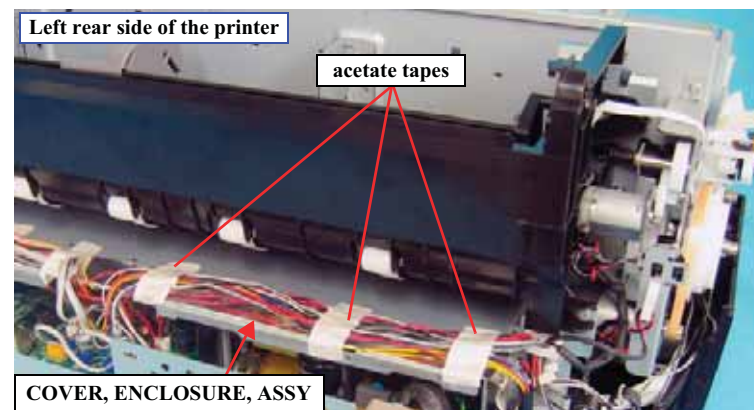

Figure 4-102. Releasing the MOTOR, RELEASE, ASSY. Cables (1)
4. Remove the acetate tapes on the COVER, ENCLOSURE, ASSY. to release the cables of the MOTOR, RELEASE, ASSY. *See Figure 4-102.*
Route the cables of the MOTOR, RELEASE, ASSY. with other cables and secure them with the acetate tapes as shown in Figure 4-102.